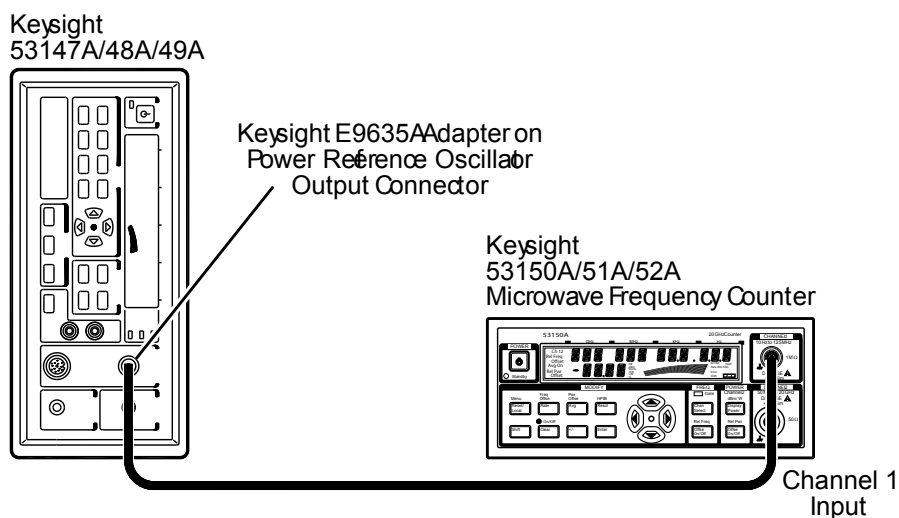

Figure 2-2 Reference Oscillator Frequency Adjustment Setup
- 3 Position the Keysight 53147A/148A/149A on its right side so that you have access to the front panel and the left side of the main circuit board (see **Figure 2-2**).
- 6 Connect an Keysight E9635A adapter to the Power Meter **OUTPUT** connector as shown in Figure 2-2.